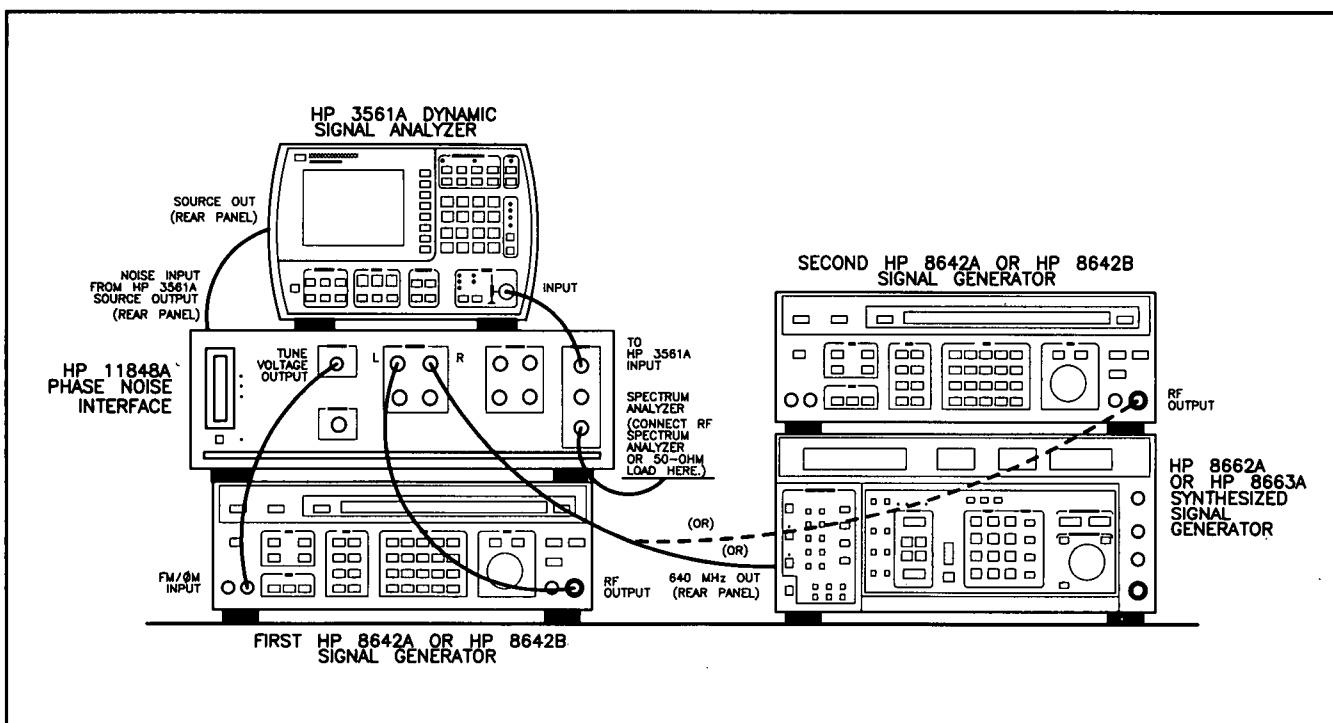

Figure 37. Spectral Purity Tests for Options 005 and 006 Setup
7. Connect the instruments as shown on the on-screen connection diagram and in Figure 37. If an HP 8642A or 8642B Signal Generator is used as the second RF source, set its RF output for 640 MHz CW at +6 dBm.